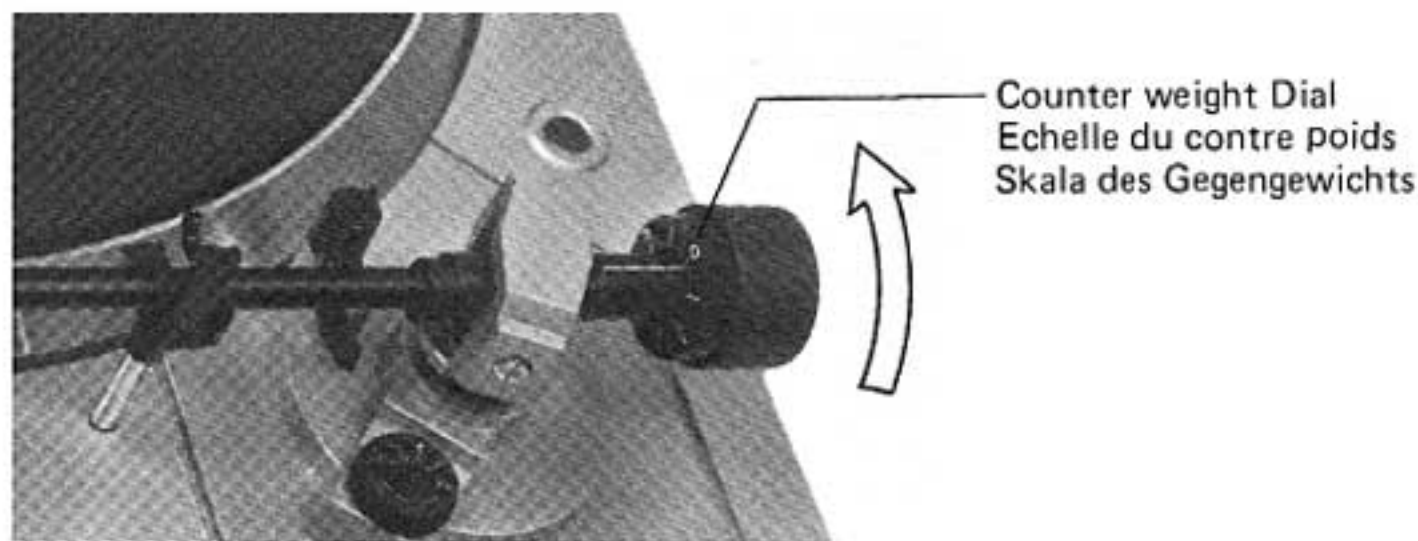

Fig. 3
4. Now, without moving the counterweight, set the counterweight dial so that the "0" mark lines up with the white line marked on the tonearm (Figure 3).